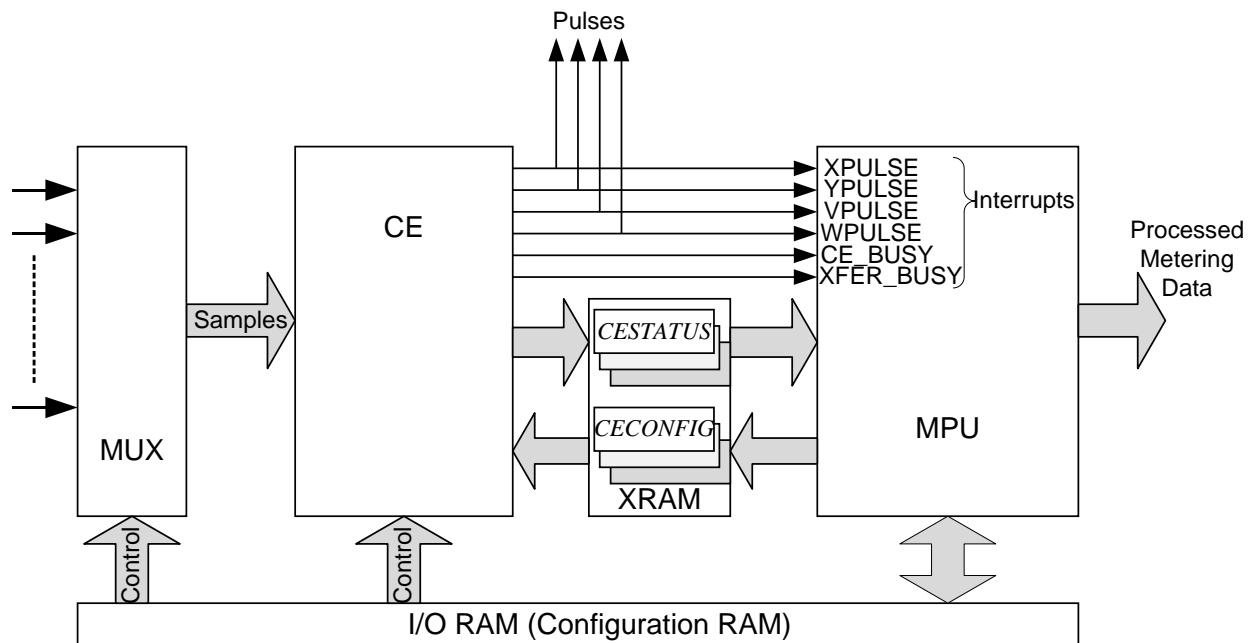

Figure 30: MPU/CE Data Flow
The data flow between the Compute Engine (CE) and the MPU is shown in Figure 30. In a typical application, the 32-bit CE sequentially processes the samples from the voltage inputs on pins IA, VA, IB, etc., performing calculations to measure active power (Wh), reactive power (VARh), A²h, and V²h for four-quadrant metering. These measurements are then accessed by the MPU, processed further and output using the peripheral devices available to the MPU.